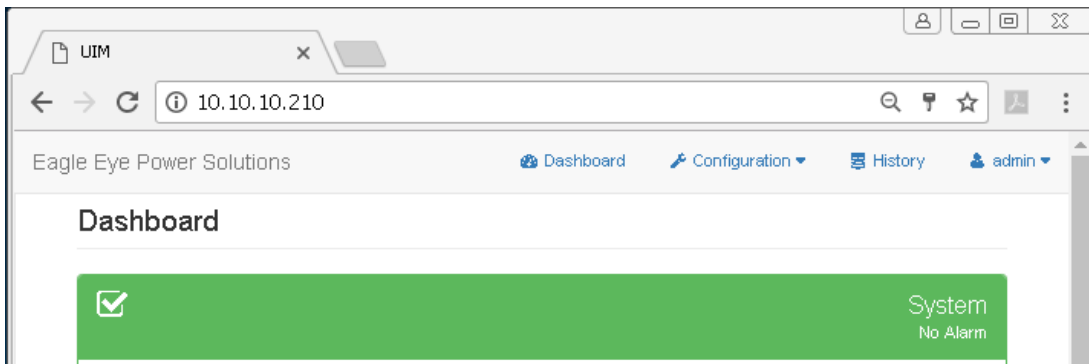

Figure 10.3-2: Accessing the Internal Charger Web Server via a Standard Internet Browser
- Open an Internet browser (Windows Internet Explorer, Google Chrome, etc) and enter “10.10.10.210” or “uim” in the address bar as shown in Figures 10.3-2 and 10.3-3. Note: If Internet Explorer is used it must be version 10 or higher.